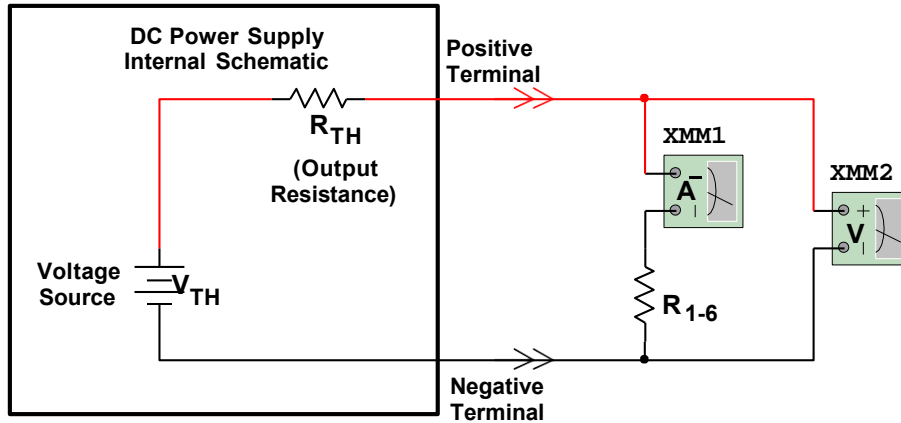

Figure 4.1 – Experimental Setup
1. **Set up** the circuit in **Figure 4.1**.